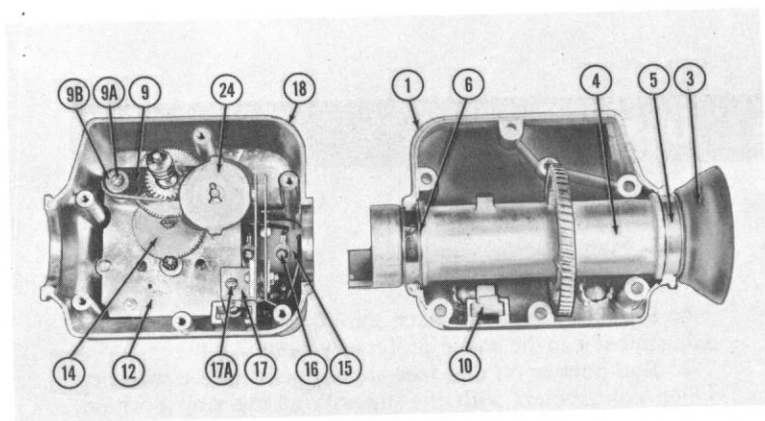

Fig. 14. Internal Components—Model U-83 Rotator Unit.
4. Contact switch (Item #17) in the rotator unit must make contact only when cam lobe (Item #24) comes in contact with the switch. If shaft assembly (Item #4) is removed from rotator unit, cam lobes must be 1/2 turn away from contact points in end-stop position on both directions. (See Figure 14.)